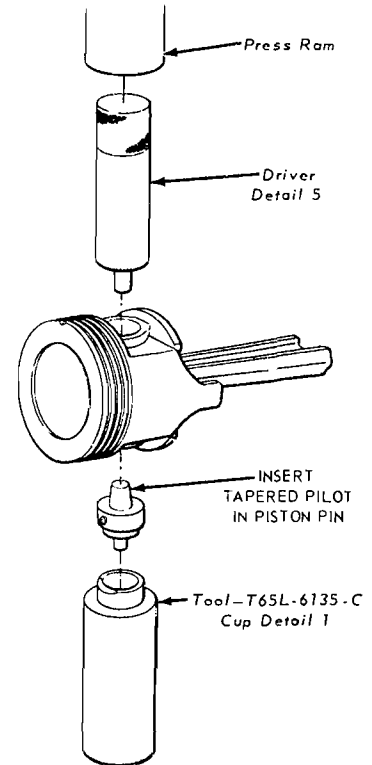

FIG. 46—Piston Pin Removal
3. Using an Arbor Press and the tool shown in Fig. 46, press the piston pin from the piston and connecting rod. Remove the piston rings.